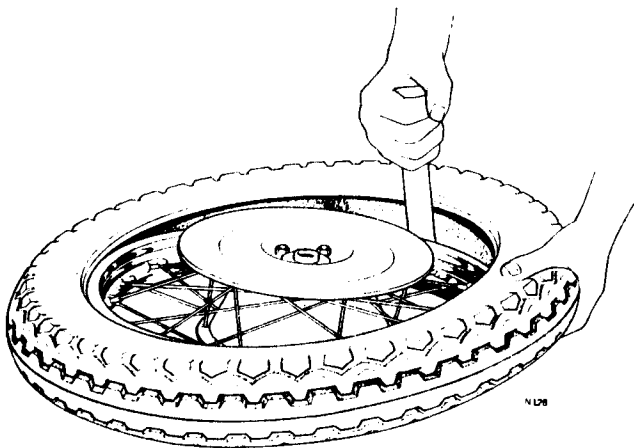

Fig. H14 First bead being levered into the rim
- 6 Pressing this side of the tire into the rim well, and working from the valve, press the first beading over the rim by hand pressure and lever the last few inches into position as in Fig. H14. Take special care that the inner tube is not nipped during this operation.
6 Pressing this side of the tire into the rim well, and working from the valve, press the first bead over the rim by hand pressure and lever the last few inches into position as in *Fig. H14*. Take special care that the inner tube is not nipped during this operation.